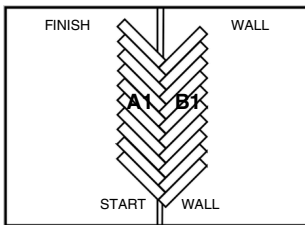

Figure 6
- Install additional planks, without cutting, working out both directions from the center. Confirm the planks continue to follow the working lines and tap them gently flat to engage the 5G locking system (Fig. 6).